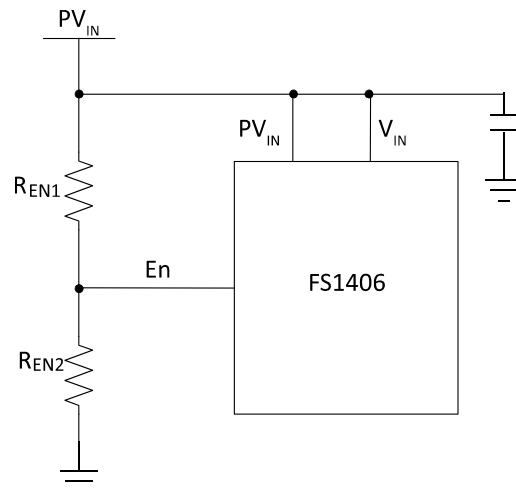
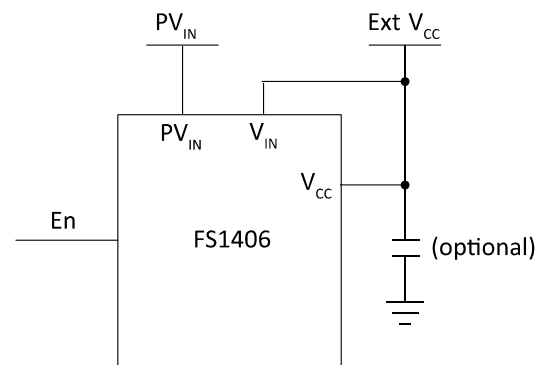

Figure 6 Single supply configuration: internal LDO regulator, adjustable PV_{IN_UVLO}
Figure 7 Using an external bias voltage
The FS1406 has an integrated Low Drop-Out (LDO) regulator, providing the DC bias voltage for the internal circuitry. The typical LDO regulator output voltage is 5.2V. For internally biased single-rail operation, the PV_{IN} pin should be connected to the PV_{IN} pin (Figure 6). If an external bias voltage is used, the V_{IN} pin should be connected to the V_{CC} pin to bypass the internal LDO regulator (Figure 7).
- It can be used to implement a precise input voltage UVLO. The input of the En pin is derived from the PV_{IN} voltage by a set of resistive dividers, R_{EN1} and R_{EN2} (Figure 6). Users can program the UVLO threshold voltage by selecting different ratios. This is a useful feature that stops the FS1406 regulating when PV_{IN} is lower than the desired voltage.